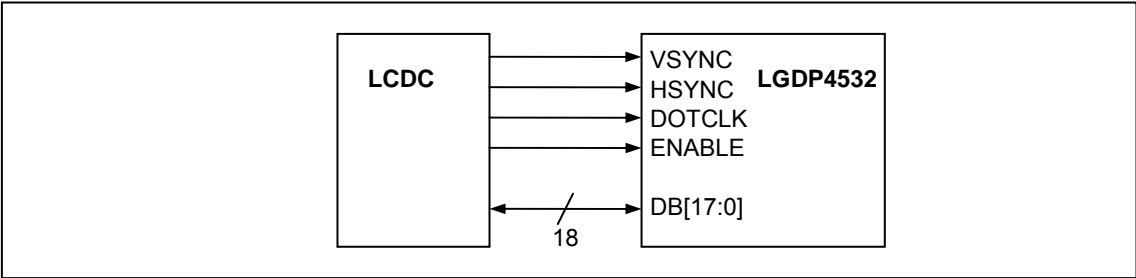

Figure 43 18-bit RGB interface
6. When switching between the internal operation mode and the external display interface operation, follow the sequences in Figure 43 RGB and Internal Clock Operation Mode switching sequences.